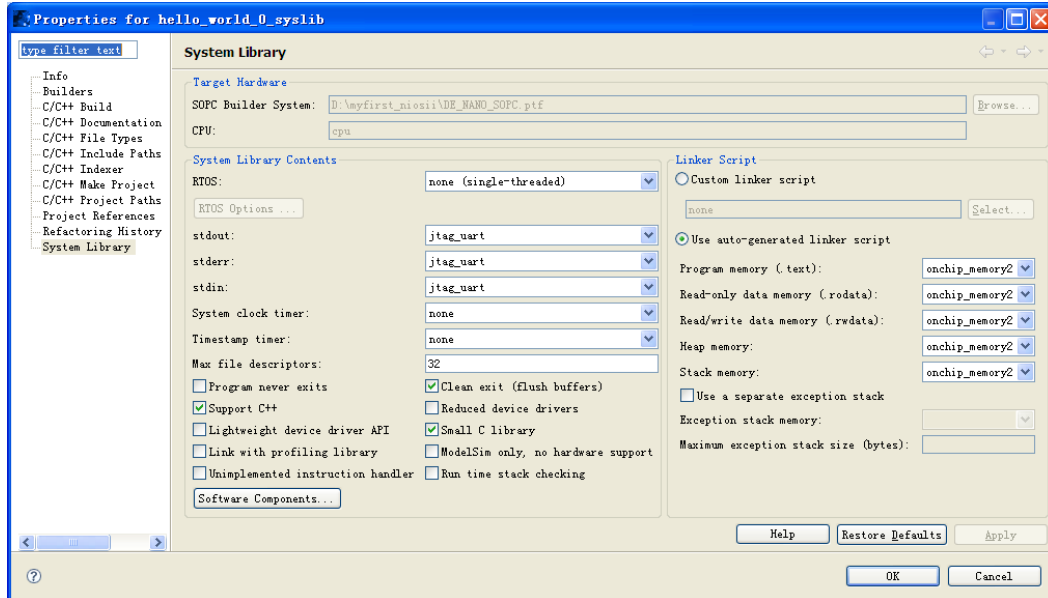

Figure 7-59 Configuring System Library Properties
3. In the **Linker Script** box, observe which memory has been assigned for **Program memory(.text)**, **Read-only data memory(.rodata)**, **Read/write data memory(.rwdata)**, **Heap memory**, and **Stack memory**, see Figure 7-59. These settings determine which memory is used to store the compiled executable program. You can also specify which interface you want to use for `stdio`, `stdin`, and `stderr`. You can also add and configure an RTOS for your application and configure build options to support C++, reduced device drivers, etc.
4. Select **onchip_memory2** for all the memory options in the **Linker Script** box, as shown in **Figure 7-59**.